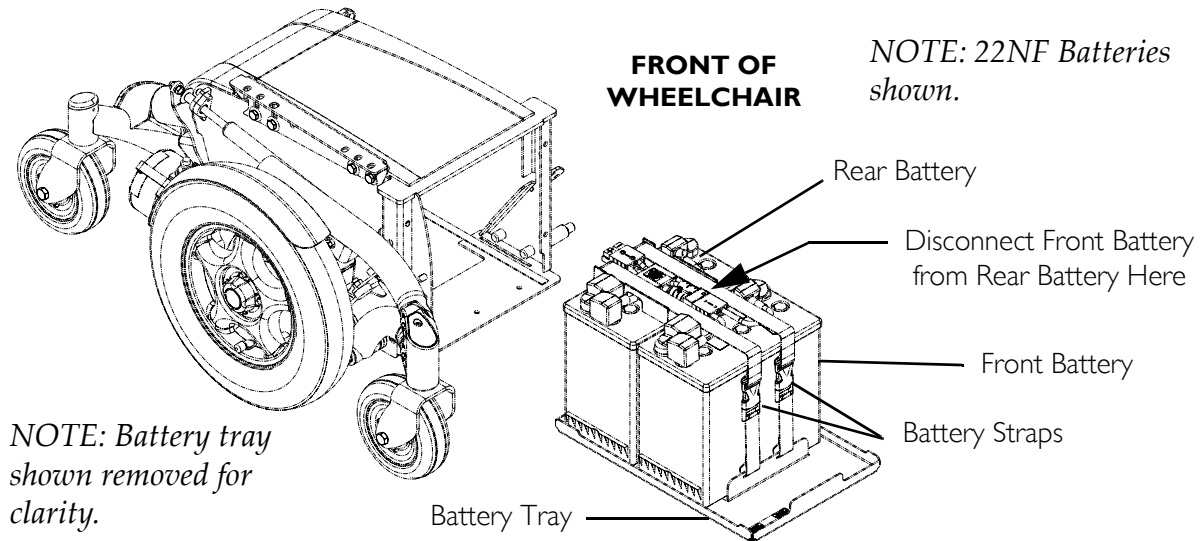
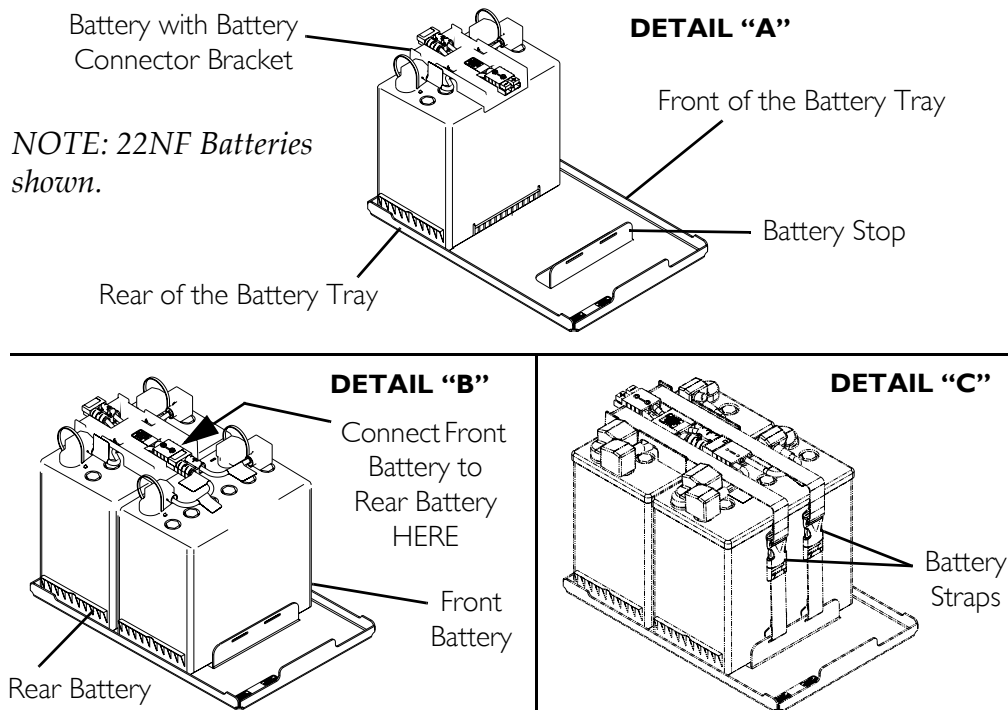

FIGURE 10.3 Removing the Batteries from Wheelchair
FIGURE 10.4 Installing Batteries into Wheelchair
NOTE: For this procedure, refer to FIGURE 10.3 on page 59.
NOTE: For this procedure, refer to FIGURE 10.3 and FIGURE 10.4 on page 60.
NOTE: Positioning of the batteries into the battery tray is completed with battery tray positioned in wheelchair and partially pulled out. Refer to FIGURE 10.3 for full view of wheelchair base. Illustrations in FIGURE 10.4 on page 60 are shown without the wheelchair for clarification purposes only.
1. Position the battery with battery connector bracket in the rear of the battery tray in the orientation as shown. See Detail "A" of FIGURE 10.4 on page 60.
2. Position the remaining battery in the front of the battery tray in the orientation shown so that the wiring harnesses can be connected together. See Detail "B" of FIGURE 10.4 on page 60.
3. Connect front battery to rear battery. See Detail "B" of FIGURE 10.4 on page 60.
4. Connect battery straps. See Detail "C" of FIGURE 10.4 on page 60.
5. Slide the battery tray into the wheelchair (FIGURE 10.3).